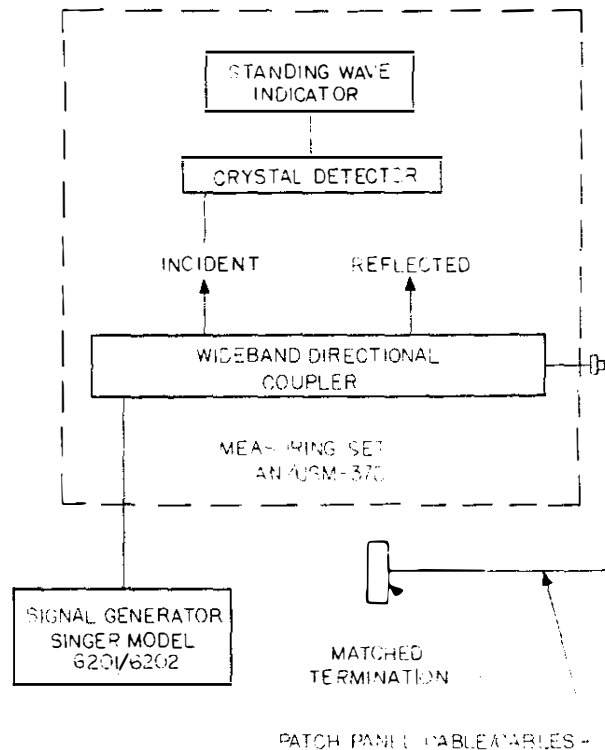

Figure 5-4. VSWR Test Setup
5-13. VSWR TEST. Figure 5-4 shows the test setup for performing the VSWR test. To perform the VSWR test, proceed as follows:
1. Setup test equipment as shown in figure 5-4. Turn on signal generator and allow 15 minutes for equipment to warm-up.